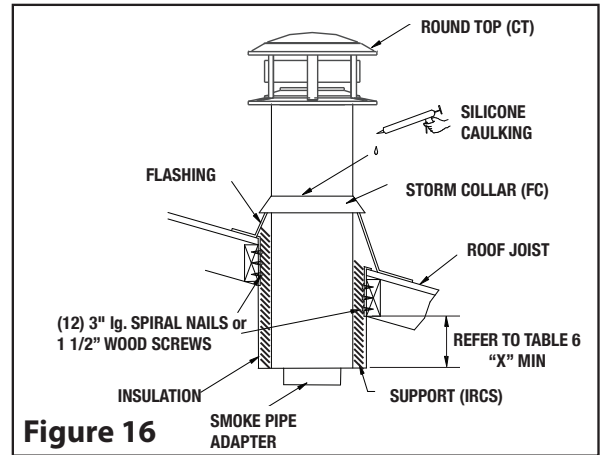

Figure 16
**NOTE:** The Insulated Reduced Clearance Support (IRCS) comes with a collar. It can be discarded for a Cathedral Ceiling application, it is not required (see Figure 16).
Step 3: Use a level to ensure the support is vertical. If the support extends above the roof, cut it flush with the top of the roof. Attach the support to the framed opening using (12)-3” spiral nails or #8 x 1 1/2” wood screws (see Figure 16).